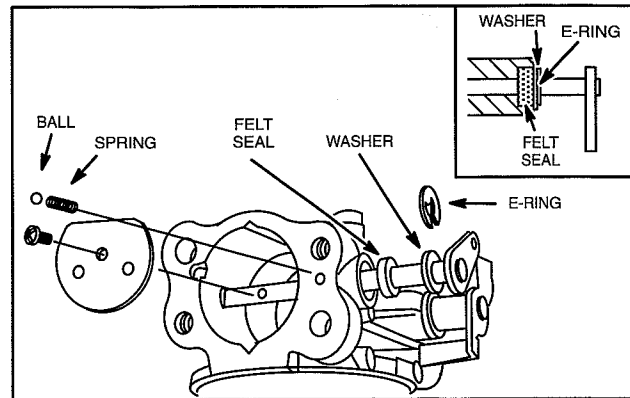

Fig. 13 – Remove Choke Plate
12. Remove screw and choke plate, Fig. 13.